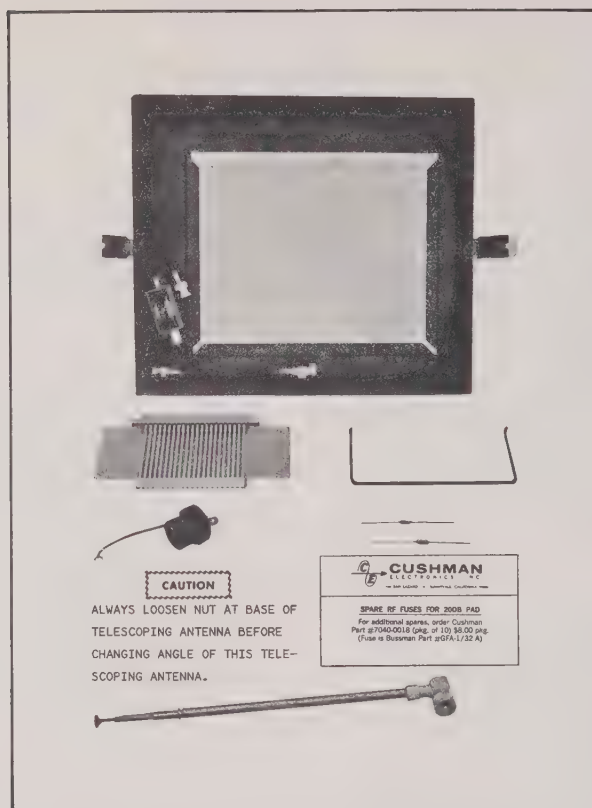

Figure 2-1. Auxiliary Items Furnished With CE-5
- 2.01 When unpacking the Model CE-5 Communications Monitor inspect the packing box and the instrument for signs of possible shipping damage and see if the auxiliary items, listed in Table 2-1 and shown in Figure 2-1, are present. Verify satisfactory performance as outlined in the Operating Instructions (Section 3). If the instrument is damaged or fails to operate properly, or if any of the auxiliary items are missing, file a claim with the transportation agency or, if insured separately, with the insurance company.